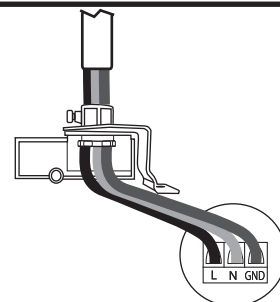

Fig. 77
- Remove screw from transformer module cover plate. Break cover plate as shown in Fig. 77. Remove and save chassis screw.